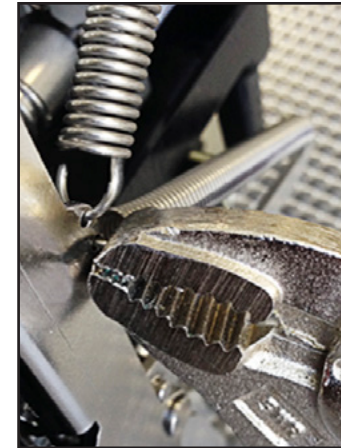

Figure 3-75 Latch Spring Removal
- 54.4 Remove all four latch springs and place them outside the work area to prevent mixing with replacement springs. It is recommended to remove the springs from the latching mechanism using small locking pliers as shown in Figure 3-75.
- 54.5 Install replacement latch springs with the open end of the hook towards the module as shown in Figure 3-75.
NOTE: It is recommended to use locking pliers and pull the spring towards the main part of the latching mechanism as shown in Figure 3-75.